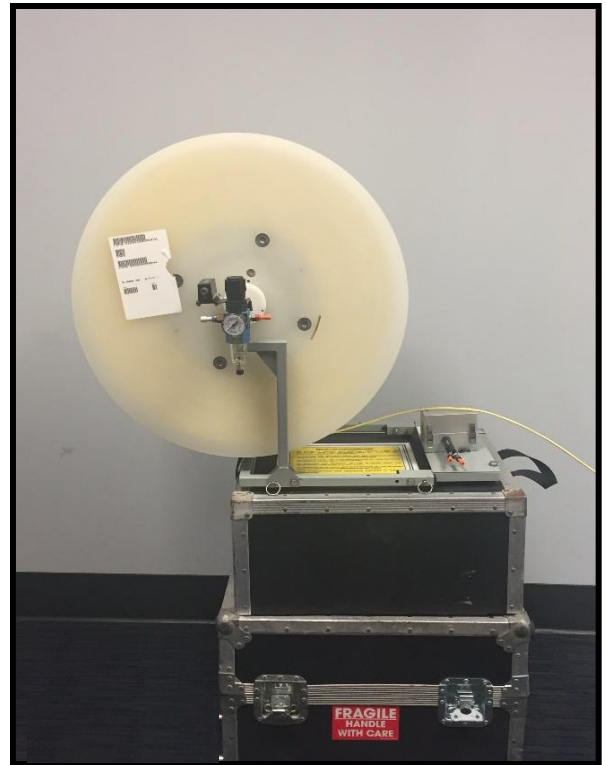

Figure 58
Note: The older Transit Case, like the newer one, provides the option to mount larger reels of fiber, such as a full 3000 meter reel of 72-Fiber Bundle. **See Fig. 58**
14.3 After following document **SRP: SP-F04-001** procedures to arrange the Transit Case, it should appear comparable to the following equipment assembly (Photo) - **See Fig. 58 & 59.**